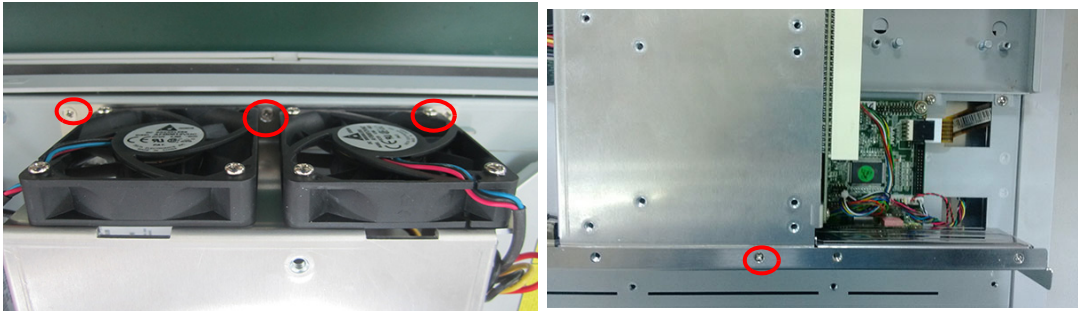

Figure 2.11
3. Remove all the screws of the reinforced board, including the three screws beside the fan (see Fig 2.11) and the one in I/O stop plate.